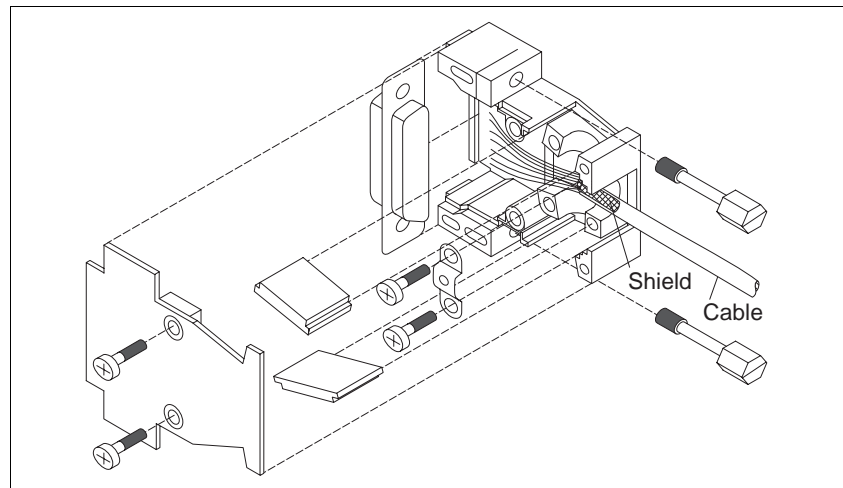

Fig. 2-17 Interface connector assembly
3. Insert two hexagon head bolts (fig. 2-17) into the connector shell.